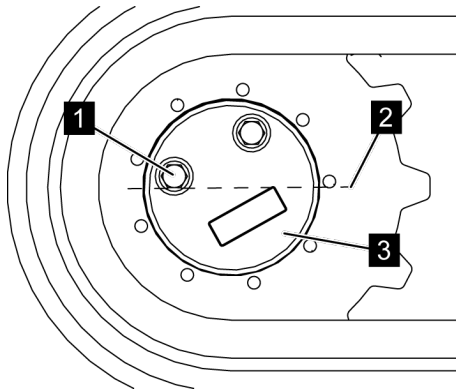

Fig. 217: Aligning the aerial access platform
2. → Align the machine so that the lower edge of the screw connection (Fig. 217/1) rests on the middle axis (Fig. 217/2) of the gearbox unit (Fig. 217/3).